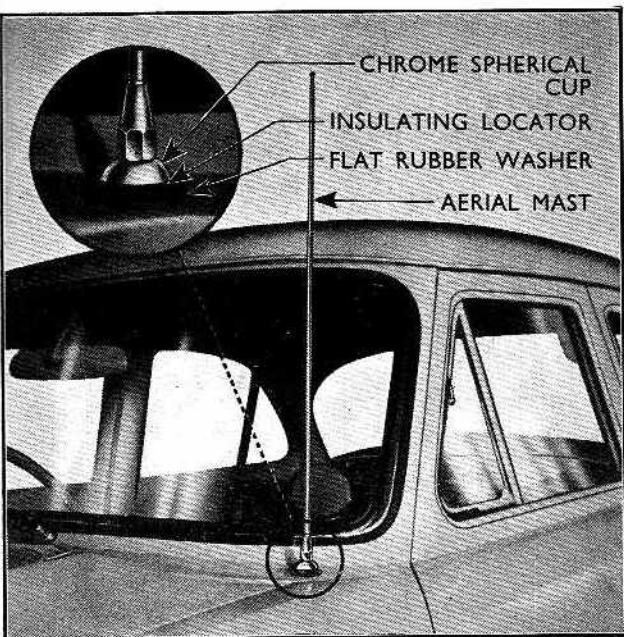

Fig. 587
A "single draw" telescopic aerial is fitted on the left-hand windscreen skirting panel (see Fig. 587) on right-hand drive models, and the right-hand panel on left-hand drive models.
- 1 Fit the larger of the two spherical cups to the aerial bollard so that the spherical surfaces engage (convex surface down) and from within the car pass the threaded portion of the bollard through the mounting hole (ensure metal to metal surfaces are clean), and then fit the flat rubber washer, insulating locator (convex surface uppermost), chrome spherical cup and the aerial mast (see Fig. 587).